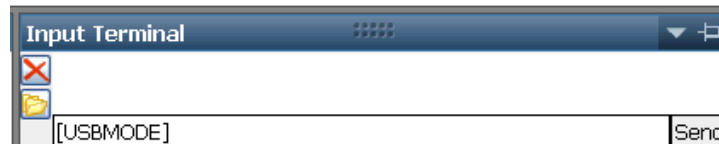

Figure 151: *Input Terminal – USBMODE*
4. Type the command [USBMODE] in the field at the bottom of the window (see Figure 151).